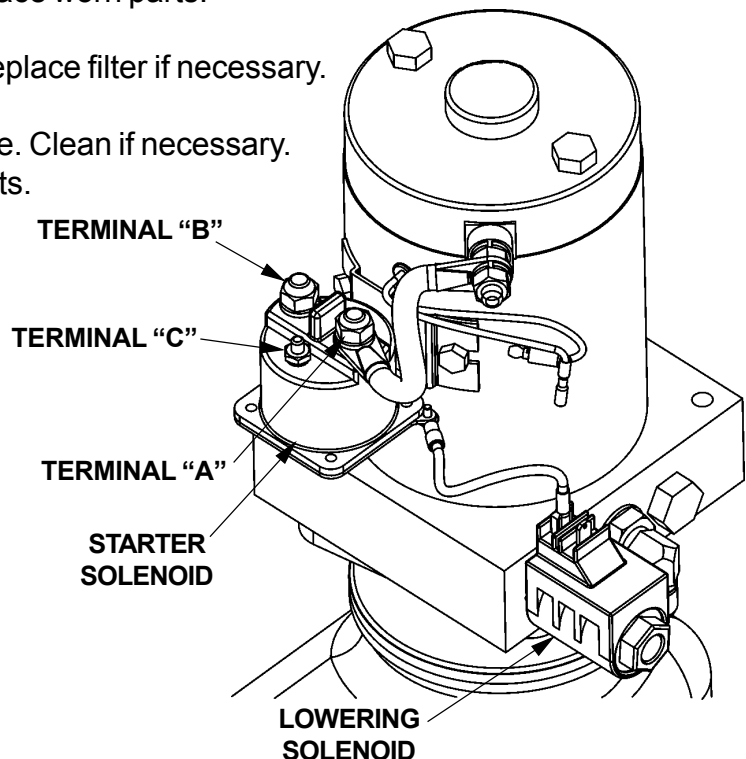

FIG. 35-1
1. Use voltmeter to verify that power is being supplied to Solenoid Terminal "A" (FIG. 35-1.) Recharge the battery if less than 12.6 volts.
3. Touch a jumper wire to terminals "A" & "C" (FIG. 35-1). If motor runs check Switch, switch connections, and White wire. Check and correct wiring connections or replace the Switch.
4. Touch heavy jumper cables to terminals "A" & "B" (FIG. 35-1).